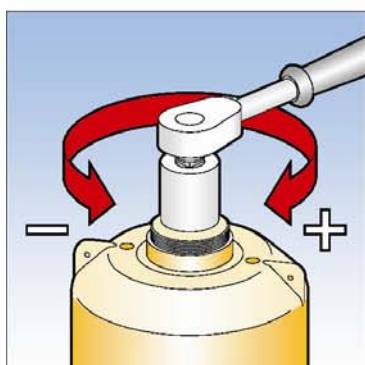

Fig. 6
5. For 100mm and 150mm H.P. unit connect suitable spanner (27mm A/F) to hexagon of spring adjusting nut. See Fig. 6.